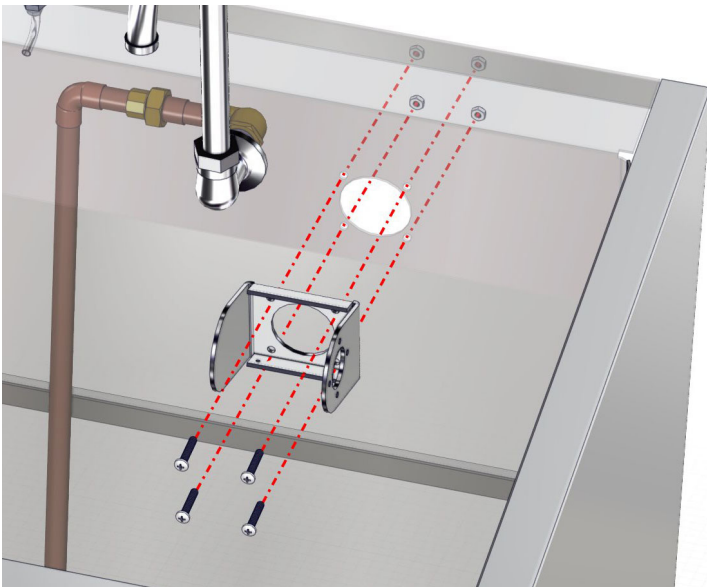

Figure 3: Attach Eye Wash Housing
2. Attach the Eye Wash Housing (SMS0058) to the front face of the sink basin wall. Secure with the supplied 4 pan head screws (H0015-06) and 4 nylon lock nuts (H0004-04). See Figure 3 (Sink basin wall is shown half transparent for clarity.)